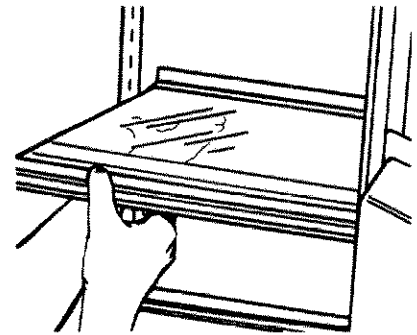

Figure 13
- Remove cantilever shelf by lifting upward at back edge of shelf near metal track to loosen shelf hooks. See Figure 13.